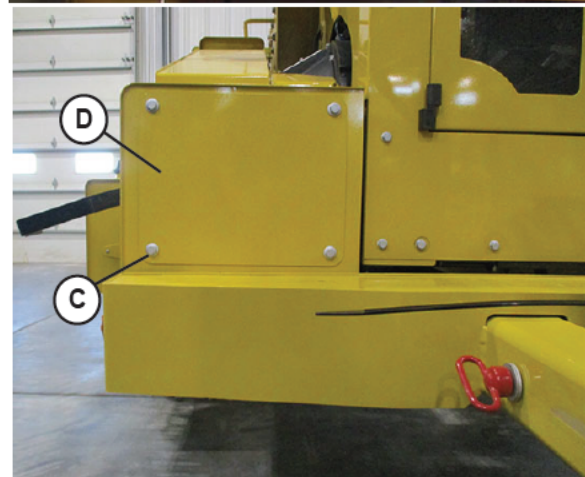

Figure 1
23. Install large lug end of secondary relay ground cable (5) to chassis ground P127 on floor of engine compartment. Torque to 45 in-lb.
24. Install positive (+) cable (B) with red cover and negative (-) cable (A) on battery
26. Install retained clutch shield (D) on mainframe using four screws (C).
28. Remove Figure 1 and attach to the invoice or place in the manual storage box so unit owner can place with existing Parts Manual.